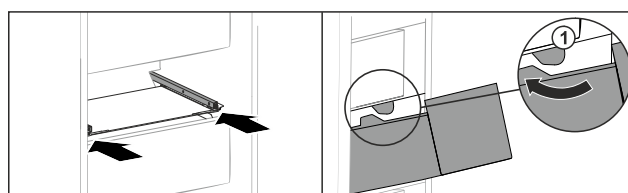

Fig. 145
- Guide drawer around the stoppers Fig. 145 (1).